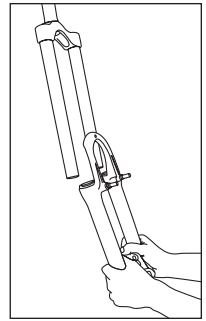

Fig. 7
7. Slide off one-piece lower tube assembly (see Fig. 7), oil will continue to drain from the upper tubes. Remove fork boots from Judy C, XC or XLC forks.